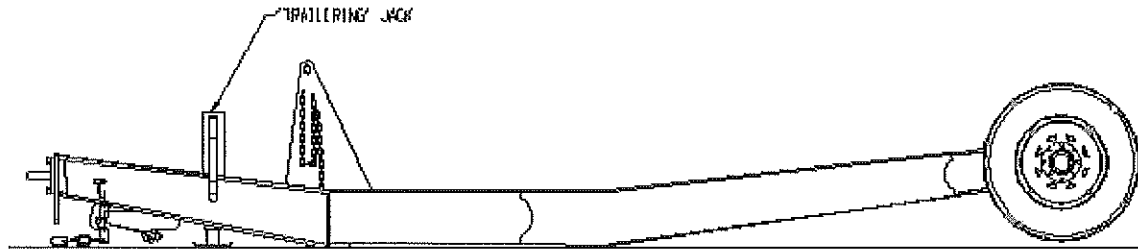

Figure 0-1. Tow Bar
52. Using the "trailer" jack, disconnect the tow bar from the pickup or dump truck and lower the tow bar, raising the tires off the ground as shown in Figure 0-1.